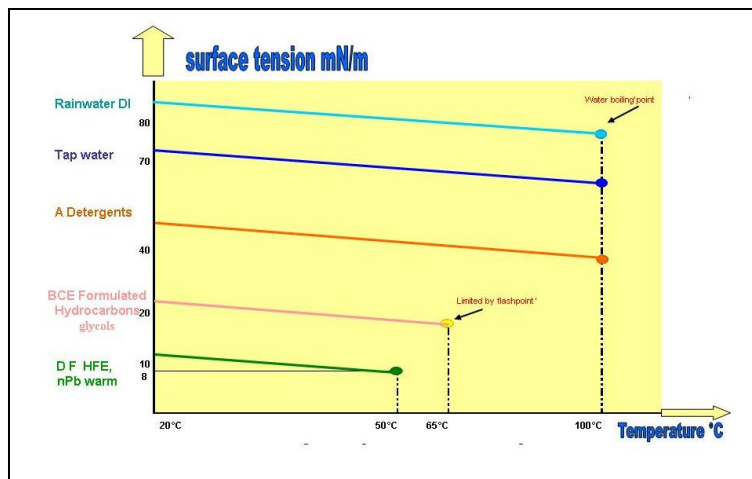

Figure 5, Surface tension chart
Detergents A are good most of the time, but very specific to the type of fluxes to be removed. Its concentration is very important in water and can vary between 3 to 50 %wt in some cases. The temperature can vary from 20-60°C, and the agitation used, sprays, spray under immersion or ultrasonic's should be considered. It is the aqueous cleaning process. The drawbacks of these detergents are: the removal of all residues under components because of the poor/high surface tension included between 40-50mN/m, the aggression of these formulations and its compatibility with materials, the rinsing with tap or DI water (high surface tension 70-80mN/m), the drying operation, the water-proof compatibility and the disposal of soiled mixture. (Figure 5). The total cost of these should also be considered.
Let's consider demineralised water (A) which has a surface tension of around 80mN/m (Figure 5). This line is bending as a function of the increase of the temperature. The variation is of about -10 mN/m. It is the reason why cleaners are warmed up into washing units; to reduce the surface tension and to move underneath cavities and components. There is the same issue with tap water (B), where its surface tension starts at 70mN/m at room temperature.
As solvents evaporate and condense on the free-boards of the vapour phase equipment, no residues are left on the PCBs and the surfaces, including under the components. (Figure 5)